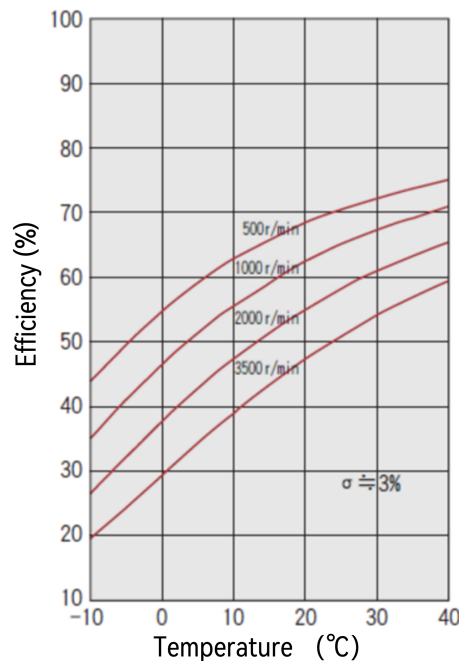

Figure 25-13 Efficiency at Rated Torque
- (1) eRob Torque Constant (usually 50%~70%. The efficiency curve is shown in Figure 25-13)
η_t	The efficiency of SWG transmission. (as shown in Figure 25-13).